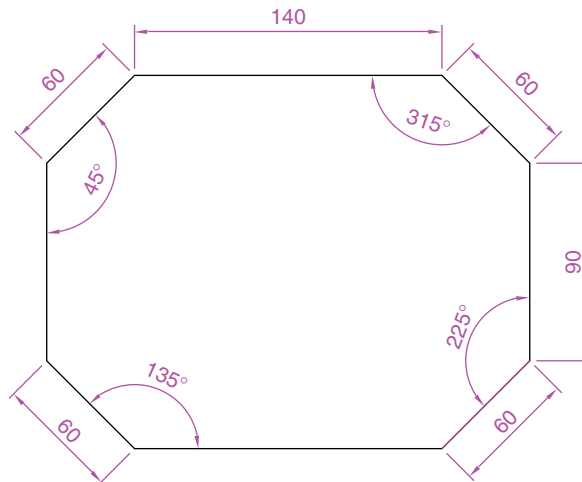

Fig. 2.31 Exercise 3
3. Using the **Line** tool, construct the outline in Fig. 2.31.